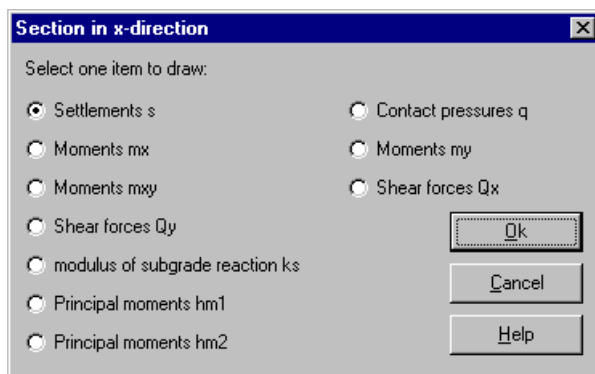

Figure 3-49 "Section in x -direction" option box
- The following option box in Figure 3-49 appears